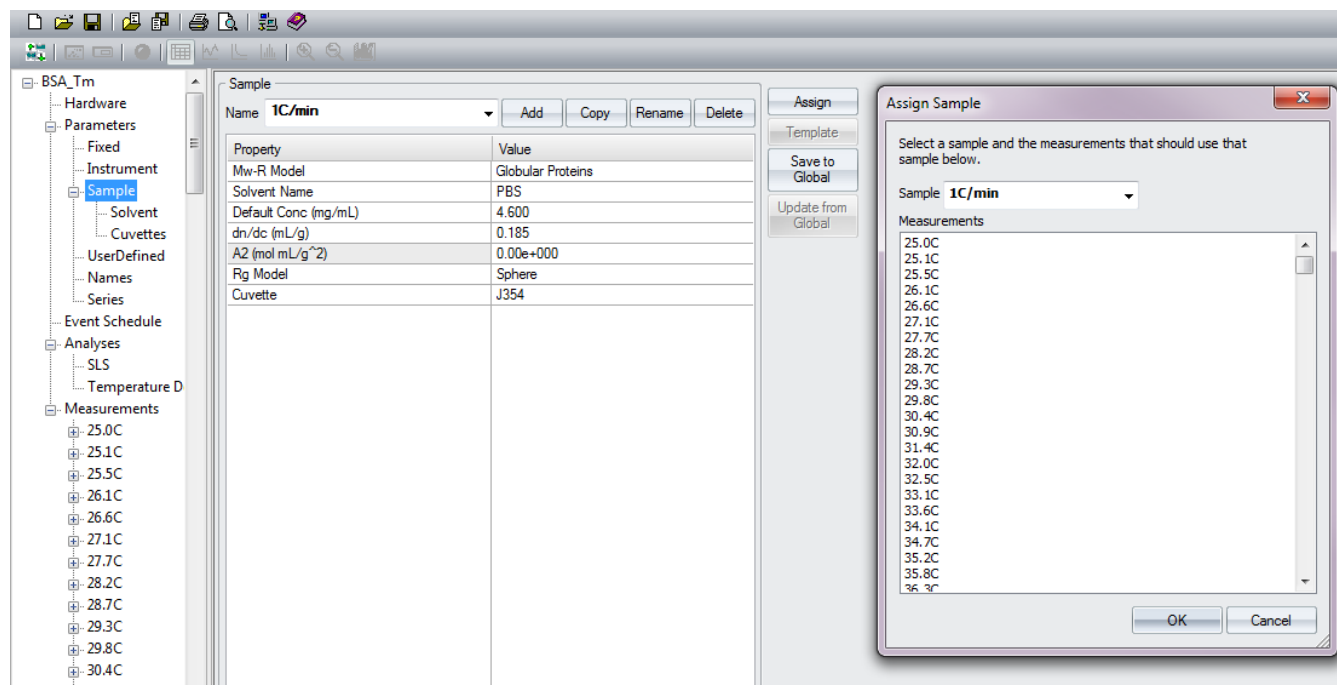

Figure 8: Assigning Sample names to measurements.
- 4) If multiple samples were measured and saved in the same DYNAMICS file, different sample names can be assigned from the **Sample** menu. Click **Add** to name the sample and then click **Assign** to choose the measurements corresponding to that sample (Figure 8). Remember to select the cuvette for which the offsets were measured and the concentration of the sample for SLS analysis.